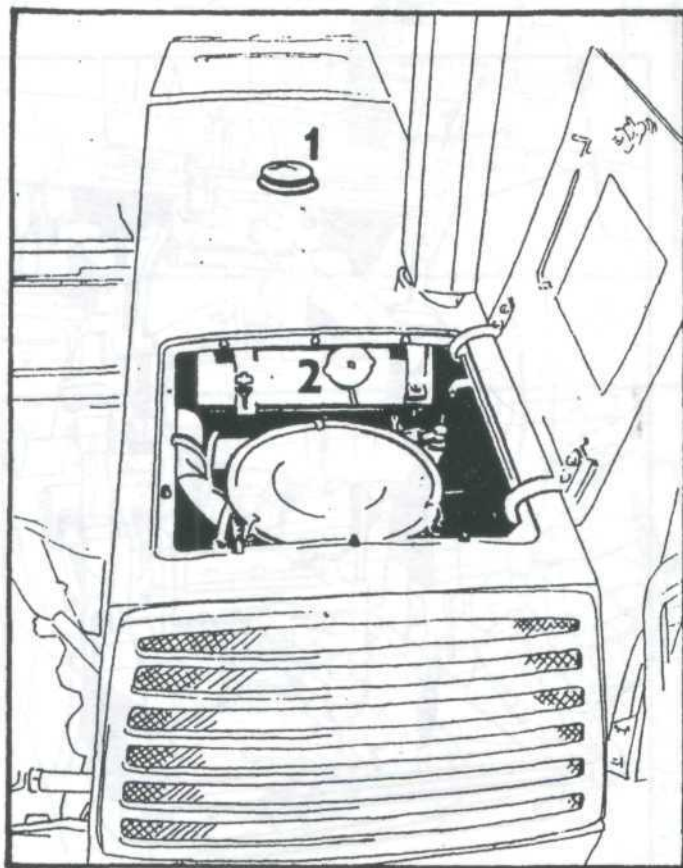

Fig. 12
- Fuel filling plug (Fig. 12/1)
- Cooling liquid (Fig. 12/2) filling plug — on Z 8011, Z 8045 the liquid is poured into an equalizer — up to half the height of this equalizer. On Z 12011, Z 12045 the cooling is poured directly into the radiator.